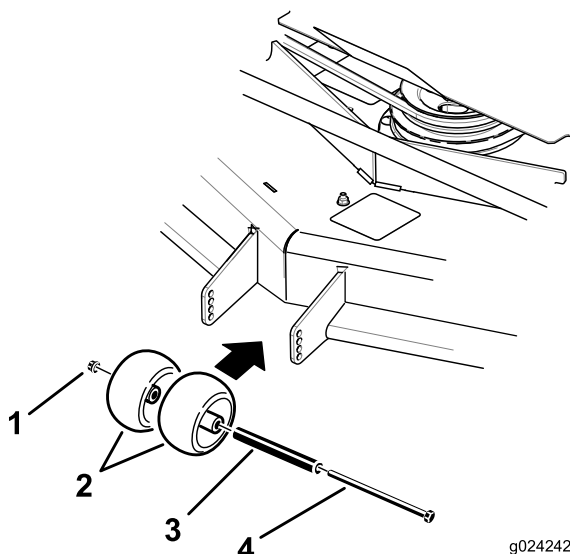
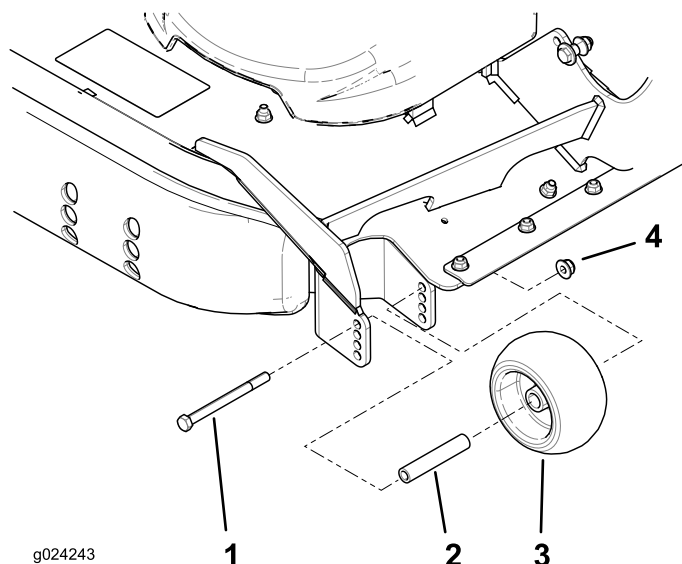

Figure 27
Figure 28
3. Adjust the anti-scalp rollers as shown in Figure 27 and Figure 28 to match the closest height-of-cut position.